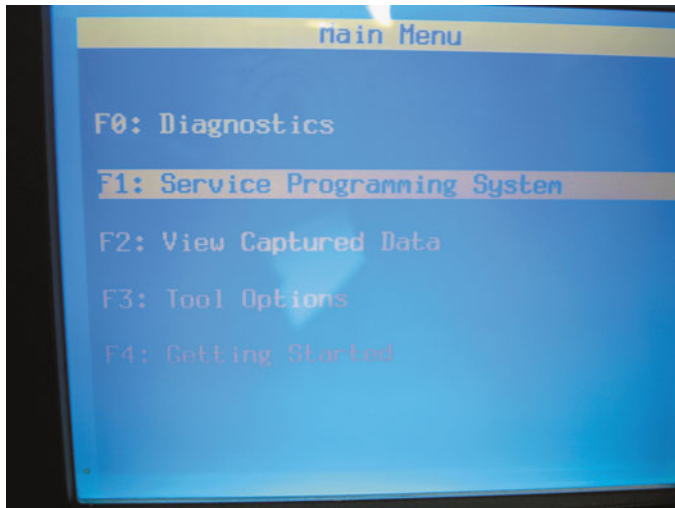

FIGURE 40-18 Follow the on-screen instructions.
- Enter the vehicle information into the scan tool through the programming application software incorporated in the scan tool. ● **SEE FIGURE 40-18.**